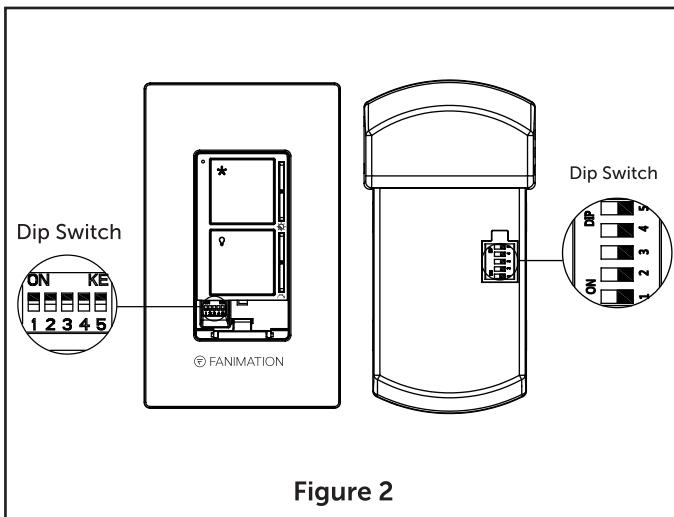

Figure 2
3. Dip Switch Set Up (Figure 2)